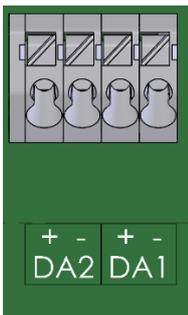

Fig. 14
1. Connect the downstream device to the required digital outputs (terminals DA1 and DA2) on the EK205 (see Fig. 14).